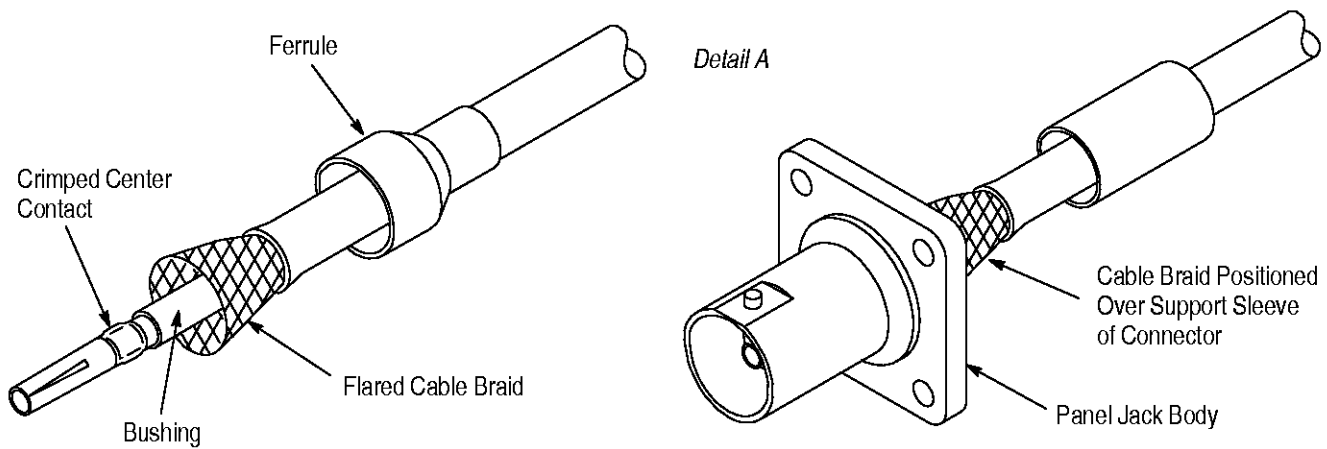

Figure 3
**NOTE** For connectors supplied with a bushing, slip the bushing over the cable dielectric before applying center contact. Refer to Figure 3.
- Insert center conductor into center contact. The center contact shoulder must be positioned against the cable dielectric, as shown in Figure 3. Be sure the cable insulation does not enter the center contact wire barrel.
4. Flare cable braid to allow the support sleeve of the panel jack body to pass under the cable braid. Refer to Figure 3.